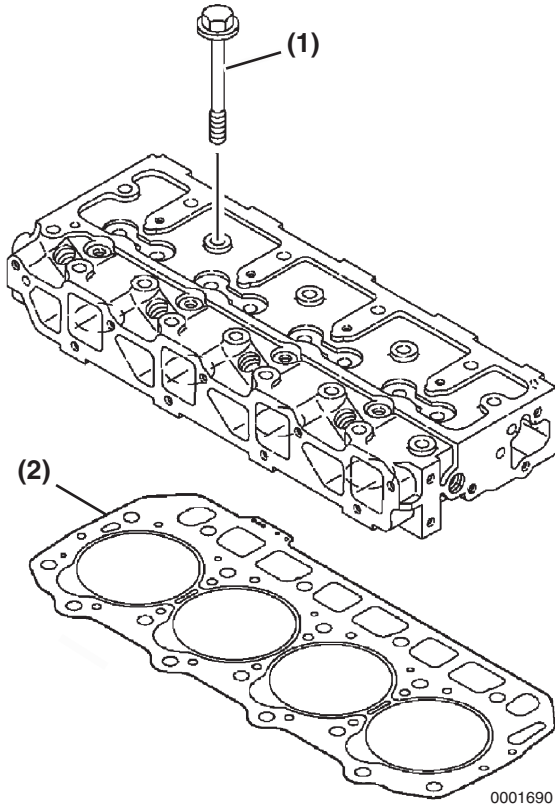

Figure 6-9
2. Remove the cylinder head bolts (**Figure 6-9, (1)**).
3. Lift the cylinder head away from the cylinder block. Discard the cylinder head gasket (**Figure 6-9, (2)**). Position the cylinder head on the work bench to prevent damage to the combustion surface.